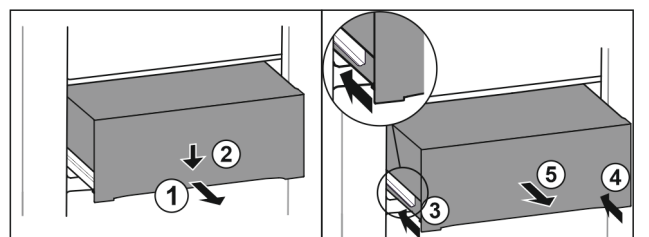

Fig. 168
- ▶ Pull out drawer half-way. *Fig. 168 (1)*
- ▶ Push the drawer down at the front. *Fig. 168 (2)*
- ▶ Push the left rail in by about 2 cm. *Fig. 168 (3)*
- ▶ Push the right rail in by about 2 cm. *Fig. 168 (4)*
- ▶ Remove drawer to the front. *Fig. 168 (5)*